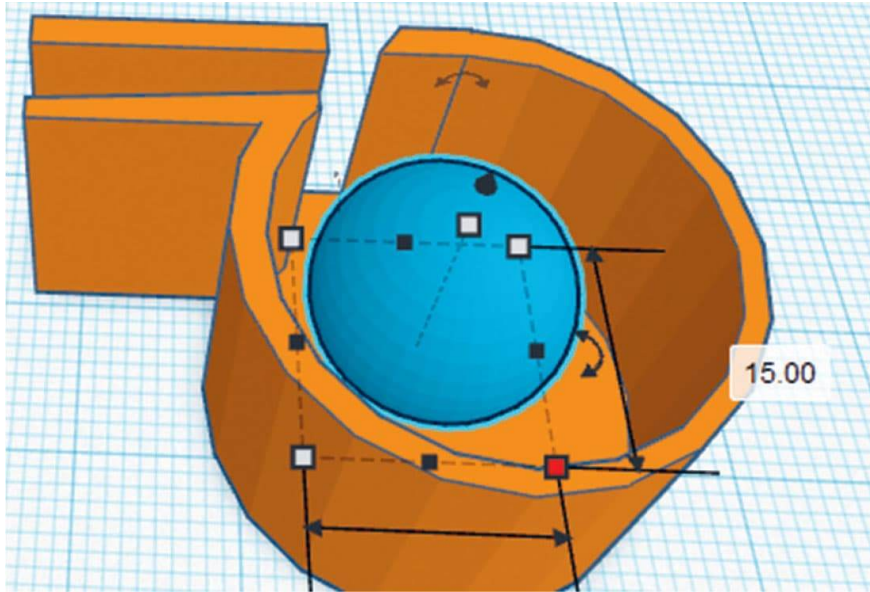

FIG. 7: *The whistle pea is a sphere inside the whistle.*
6. Design the whistle pea by creating a **Sphere** 15 mm in diameter and locate it 1.9 mm above the workplane. It should be inside the whistle as shown in fig. 7.